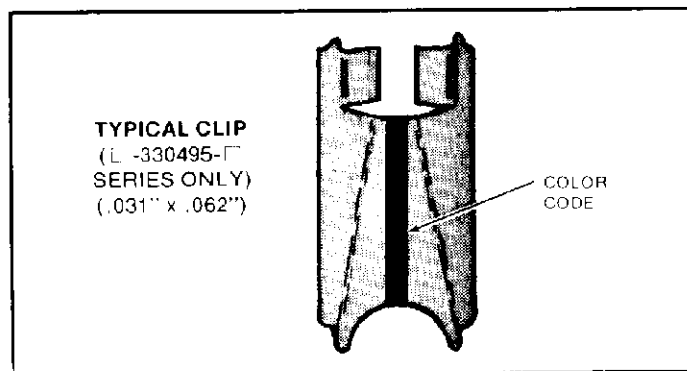

Figure 3
- Clip Identification Label: The color code will appear on the label, containing the part number and quantity, affixed to the clip reel or tube. See Figure 3.